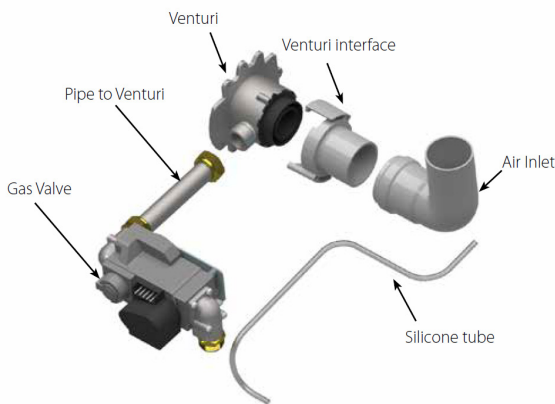

Fig. 1: Exalt 110 Gas Train
1. To access the Installer screen, touching simultaneously the up and down soft keys for 3 seconds as shown in Fig. 1.